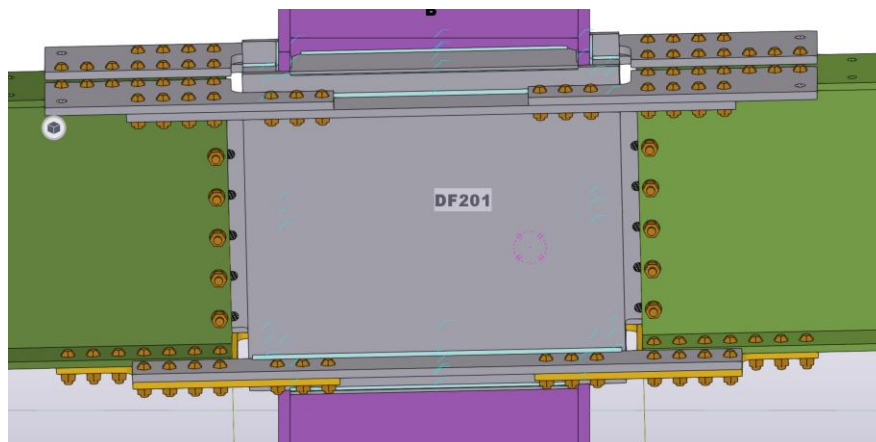

Figure 4-7. Connection ID Displayed in Tekla Model
12. At the bottom of the dialog, select **Modify** and **OK**. The connection ID will show up in the model (see Figure 4-7).